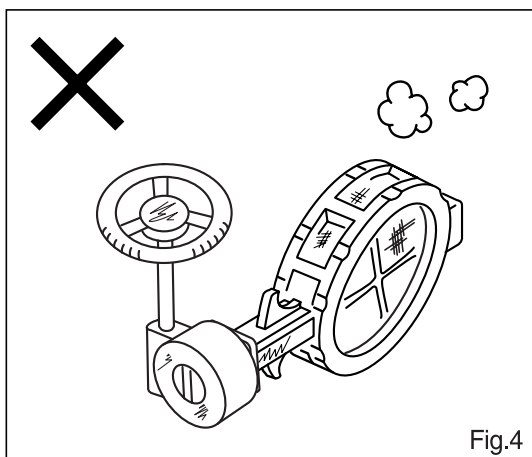

Fig.4
- **Un-packing** : Un-packing of valve to be recommended before its installation to pipings. If valve stored being unpacked for long, dust or foreign matter will get into the valve. If will cause malfunctions. (Fig.4)